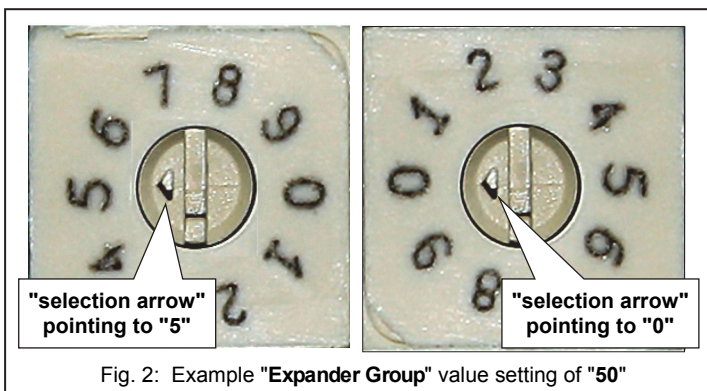

Fig. 2: Example "Expander Group" value setting of "50"
**Example:** Fig. 2 (below) displays the "Expander Group" value set to "50". Use a small flat-head screwdriver to turn the dials and make the selections.